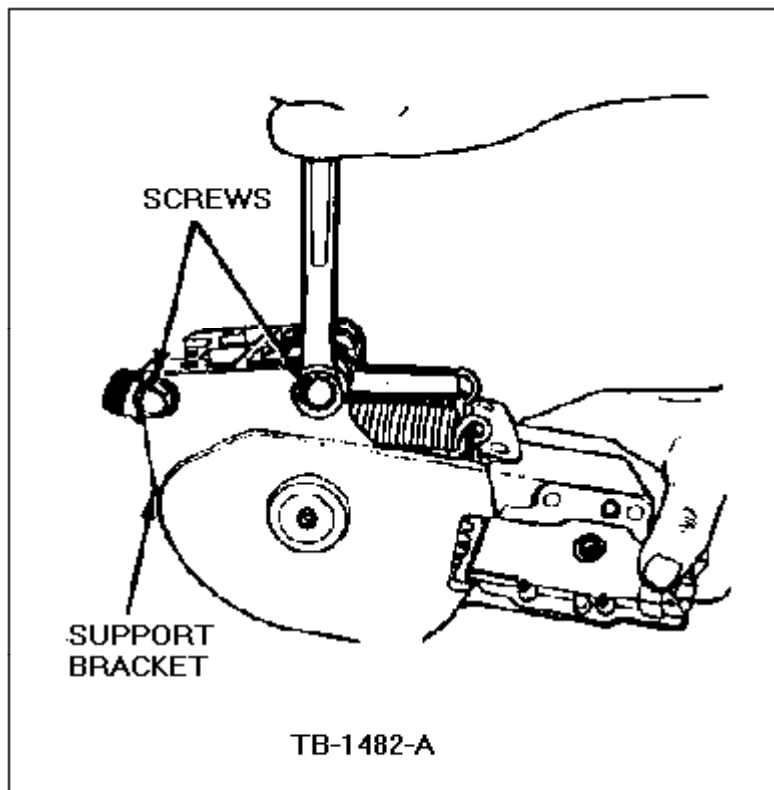

Figure 15 - Article 90-5-10
18. Remove the four (4) screws from the support bracket and lower housing, Figure 15.